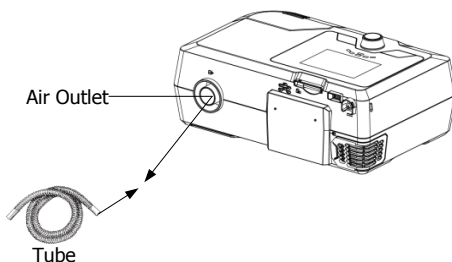

Fig. 12-4.
(1) Connect one end of the tube to the air outlet of the device, as shown in Fig. 12-4.